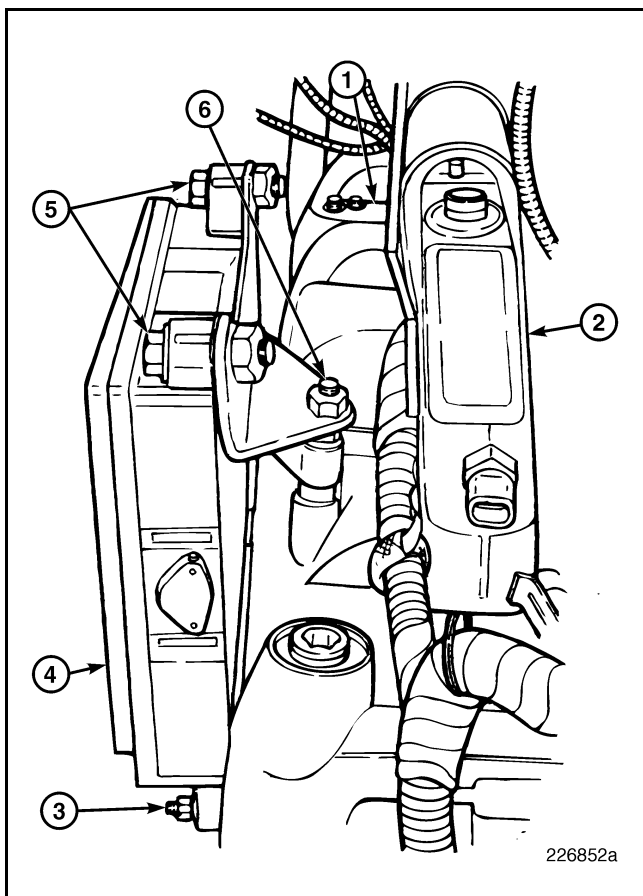

Figure 308 — Engine ECU Installation (Left-Side Mounted Unit)
1. Position the EECU and bracket assembly on the air inlet manifold and install the isolating washers and three mounting capscrews (Figure 308). Tighten the capscrews to specification, 15 lb-ft (20 N•m).